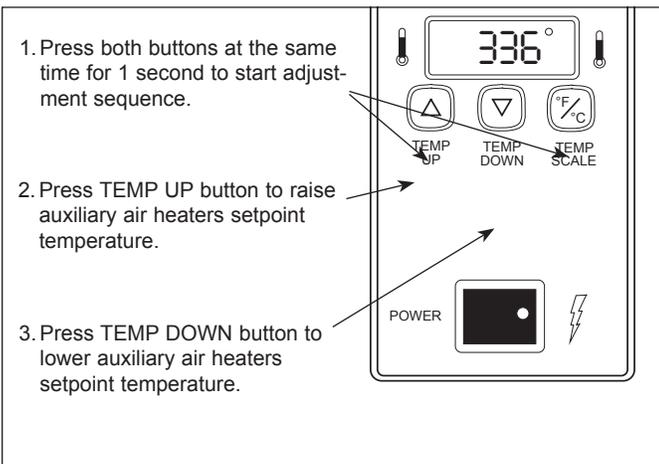

Figure 6. Adjusting Auxiliary air Heaters Setpoint Temperature
2. Press and hold both TEMP UP and TEMP SCALE buttons for over 1 second until the display flashes the setpoint temperature, then release (Figure 6).
- If the Platen Heater temperature exceeds 620°F (327°C) the display will flash “HI” and the heating circuit will turn off (Figure 6). After the toaster has cooled down, the unit must be turned off, then back on to restart. If this condition repeats, contact your Authorized Service Agency.
- If the Auxiliary Heating temperature exceeds 420°F (215°C) the display will alternately flash “HI” and “USE” (Figure 6). After the toaster has cooled down, the unit must be turned off, then back on to restart. If this condition repeats, contact your Authorized Service Agency.